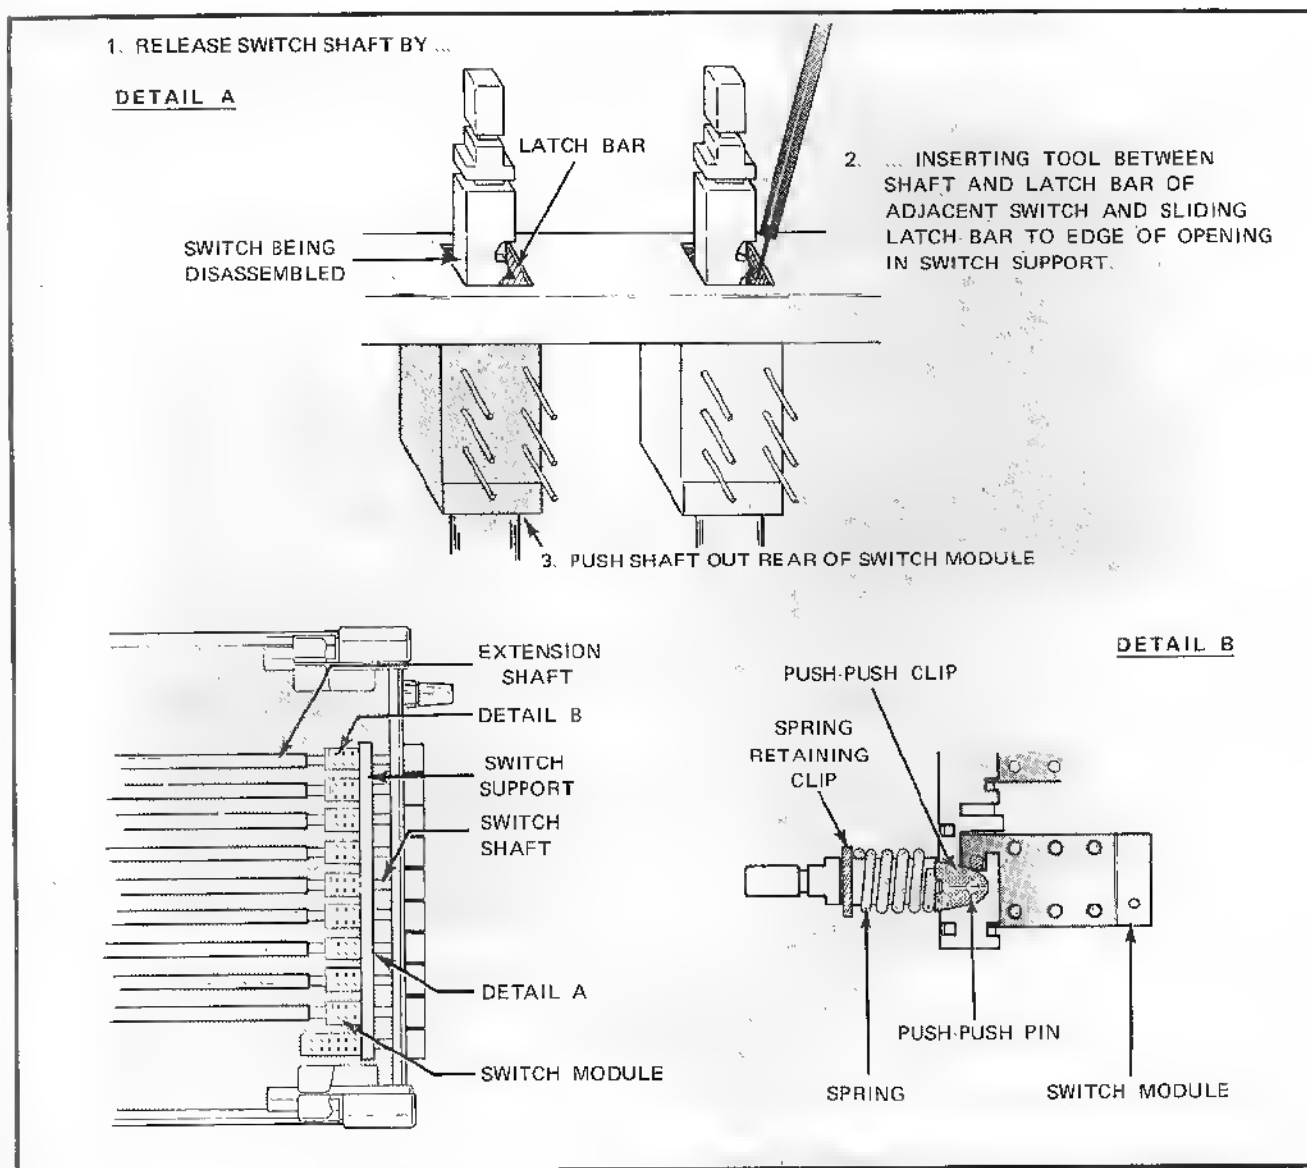

Figure 4-3. DISASSEMBLY OF FRONT SWITCH MODULES
- c. Remove the switch shaft by sliding the latch bar to the side and pushing the shaft slowly out the back of the switch module (see Detail A, Figure 4-3). Use a pointed tool to move the latch bar. The latch bar is conveniently actuated from the shaft opening at an adjacent switch, in which case the pushbutton will have to be removed from the adjacent switch shaft also. The moveable contacts will spring out of their slots in the shaft as
4-22. PROCEDURE NO. 3 - DISASSEMBLY OF POWER SWITCH (Figure 4-3)
- b. Remove the spring retaining clip, the spring, the push-push clip, and the push-push pin (see Detail B Figure 4-3).